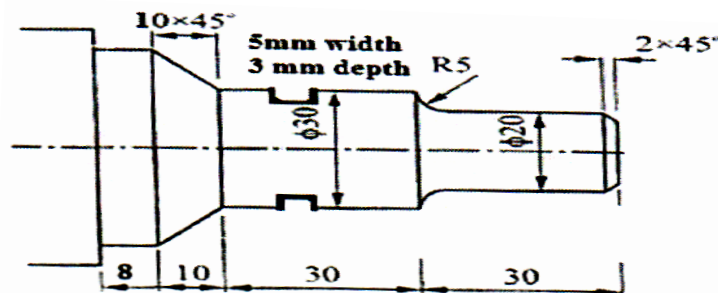

Fig.1.Q - No.3(b)
b) Write a complete NC part program for the component shown in Fig. 1, Draw the tool path and take raw material MS blank of 105 mm x 85 mm, spindle speed 300 RPM and feed 0.2 mm/rev. all dimensions are in mm. [10]